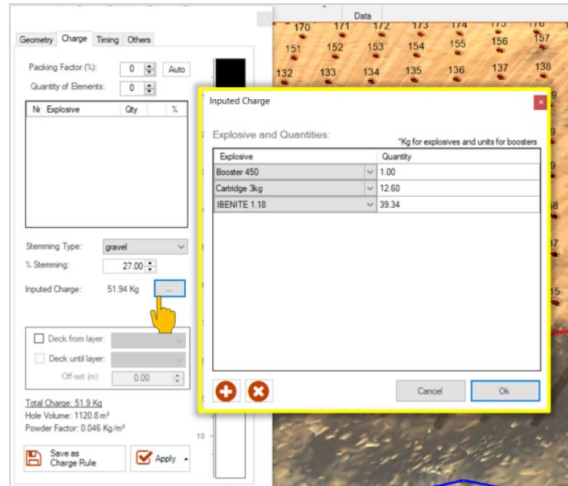

Fig. 259 – Inputed charge with the information updated
P.S: In the case of some holes having their charges modified on the field, when updating holes through the server (O-PitCloud), the new information related to their charges will appear within the inputted charge field (Fig. 259).